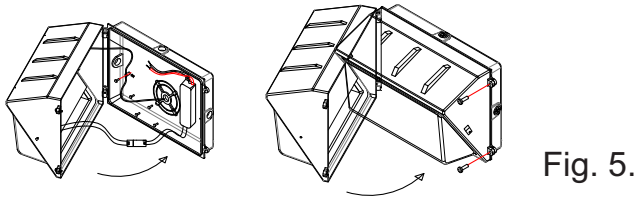

Fig. 5.
5. Assemble the cover, and wire the cable: black to black, white to white, and green to ground using safety connectors. Reconnect the wire of driver and LED PCB. Close the cover and fasten with screws. Fig. 5.